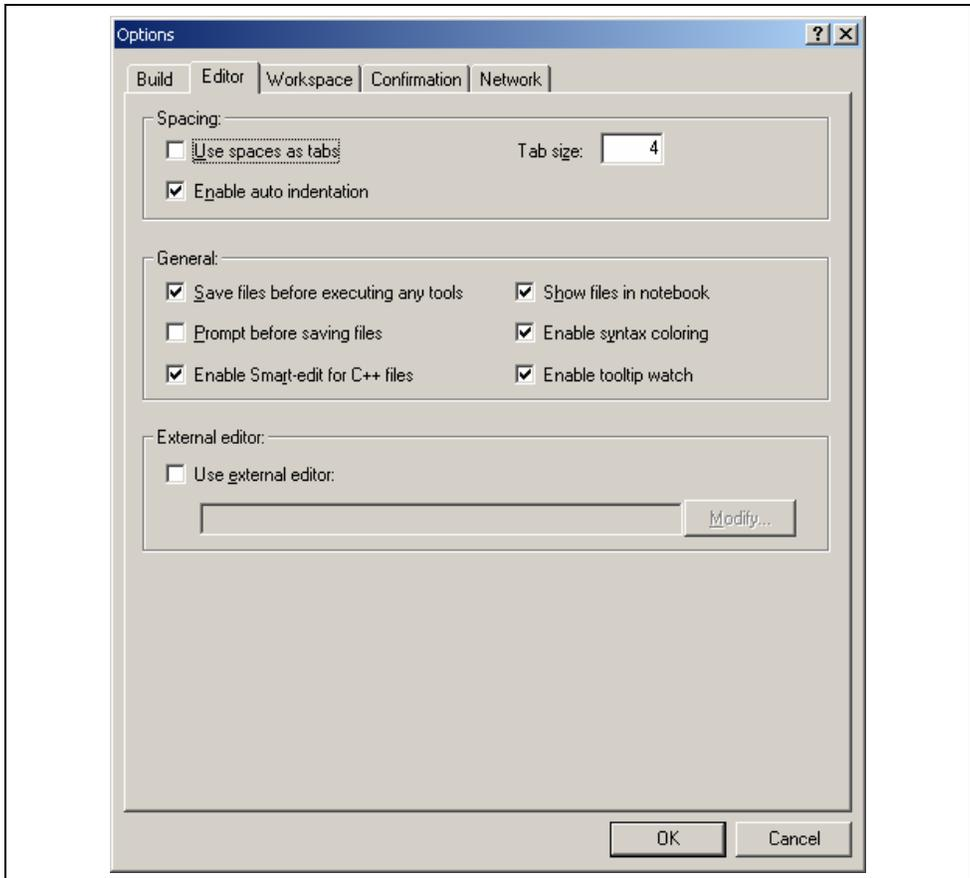

Figure 6.12: Options Dialog Editor Tab
1. Select [Tools->Options...]. The “Options” dialog will be displayed. Select the “Editor” tab (figure 6.12).
The High-performance Embedded Workshop allows you to customize file save on the “Editor” tab of the “Options” dialog (figure 6.12). To open the tab, select [**T**ools->**O**ptions...] and click the “Editor” tab.